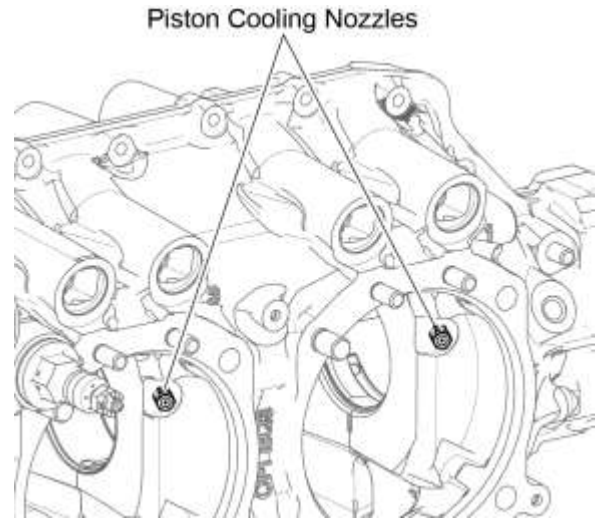

Figure 69
- (10) If the gage does not move freely between the ends and under the top of the circlip, the circlip seating is not correct. Install the circlip again and complete a check of the circlip seating again per the previous steps. The circlip must be seated correctly.
- B. Install three piston cooling nozzles in each crankcase half (Figure 69).